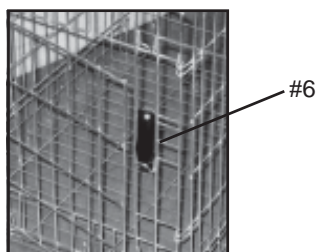

Figure 5
5. Familiarize yourself with the Spring Plastic Hook Latch (#6) before placing animal in Wire Pet Cage (#1). Close Door (#7). Hook Latch (#6) points down. To lock and unlock, push black Hook Latch, lift up and drop in place. Reverse to unlock. Always check to make sure Door is properly closed and locked. (See Figure 5, 6, 7).